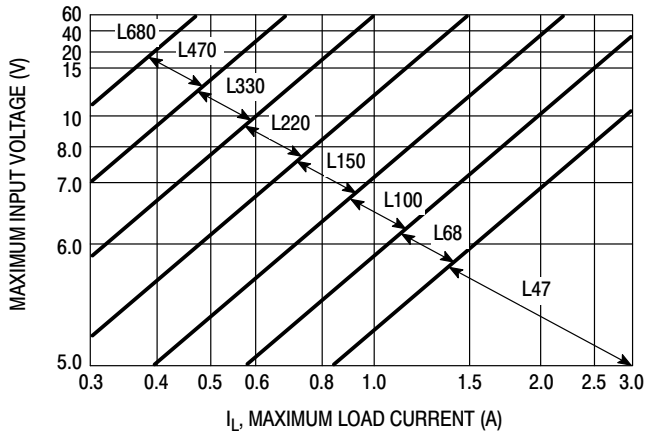
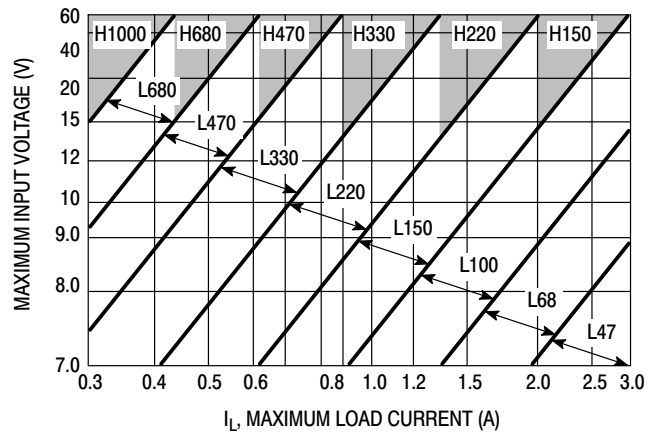

Figure 18. LM2576-3.3
Figure 19. LM2576-5
4. Inductor Selection (L1) A. According to the required working conditions, select the correct inductor value using the selection guide from Figures 18 to 22. B. From the appropriate inductor selection guide, identify the inductance region intersected by the Maximum Input Voltage line and the Maximum Load Current line. Each region is identified by an inductance value and an inductor code. C. Select an appropriate inductor from the several different manufacturers part numbers listed in Table 2. The designer must realize that the inductor current rating must be higher than the maximum peak current flowing through the inductor. This maximum peak current can be calculated as follows: $I_{p(max)} = I_{Load(max)} + \frac{(V_{in} - V_{out}) t_{on}}{2L}$ where $t_{on}$ is the “on” time of the power switch and $t_{on} = \frac{V_{out}}{V_{in}} \times \frac{1.0}{f_{osc}}$ For additional information about the inductor, see the inductor section in the “Application Hints” section of this data sheet.	4. Inductor Selection (L1) A. Use the inductor selection guide shown in Figures 19.  B. From the selection guide, the inductance area intersected by the 15 V line and 3.0 A line is L100.  C. Inductor value required is 100 $\mu$ H. From Table 2, choose an inductor from any of the listed manufacturers.
To simplify the inductor selection process, an inductor selection guide for the LM2576 regulator was added to this data sheet (Figures 18 through 22). This guide assumes that the regulator is operating in the continuous mode, and selects an inductor that will allow a peak-to-peak inductor ripple current to be a certain percentage of the maximum design load current. This percentage is allowed to change as different design load currents are selected. For light loads (less than approximately 300 mA) it may be desirable to operate the regulator in the discontinuous mode, because the inductor value and size can be kept relatively low. Consequently, the percentage of inductor peak-to-peak current increases. This discontinuous mode of operation is perfectly acceptable for this type of switching converter. Any buck regulator will be forced to enter discontinuous mode if the load current is light enough.